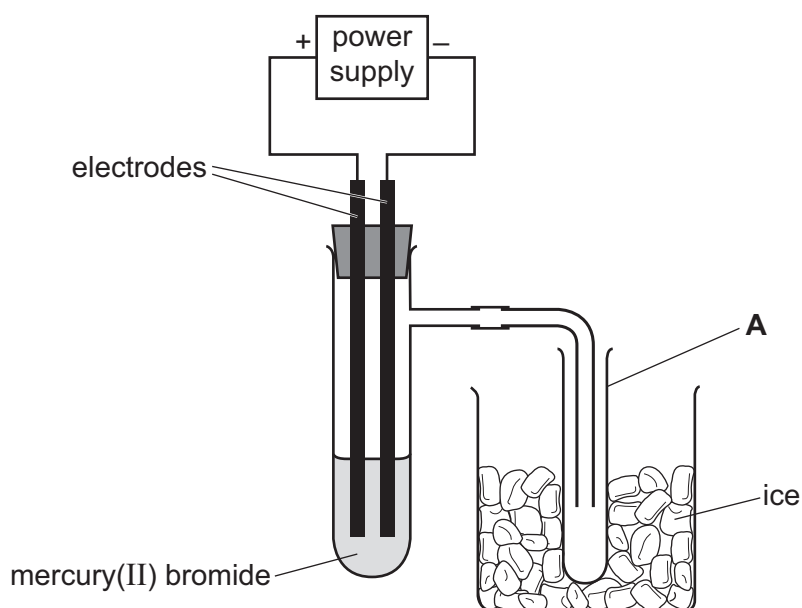

Fig. 1.1
- 1 A teacher uses the apparatus shown in Fig. 1.1 to pass an electric current through molten mercury(II) bromide at a temperature of 300°C .
During the process shown in Fig. 1.1, the molten mercury(II) bromide breaks down and forms bromine and mercury.
- (a) Draw an arrow on Fig. 1.1 to show where the apparatus should be heated. [1]
- (b) Name the item of apparatus labelled **A** in Fig. 1.1.
- (c) Name the process shown in Fig. 1.1 which breaks down mercury(II) bromide.
(d) The electrodes used in the process shown in Fig. 1.1 are made from platinum.
(e) On Fig. 1.1, draw an **X** to show where mercury will collect. [1]